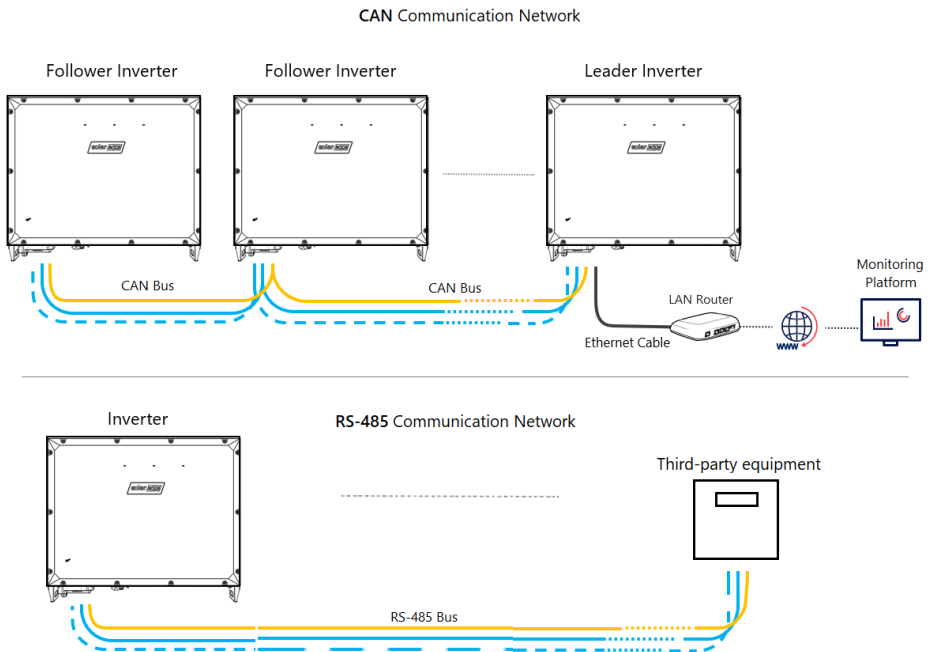

Figure 32: String of SolarEdge TerraMax Inverters linked by a CAN or RS-485 communication network
*Figure 32* shows a string of SolarEdge TerraMax Inverters linked CAN or RS-485 communication network.